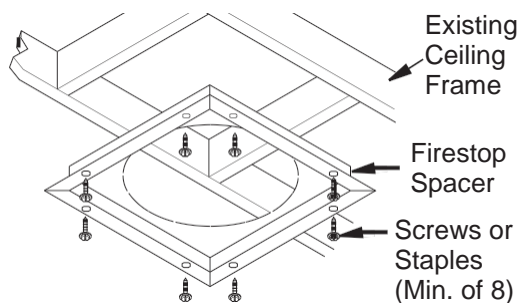

**Figure 11 - Typical Offset Terminations**
3. Maximum length of pipe between supports (return elbow or 12S-12DM) is 6' of angle run. Maximum of two 6' angle run sections per chimney system (see Figure 11, page 10).